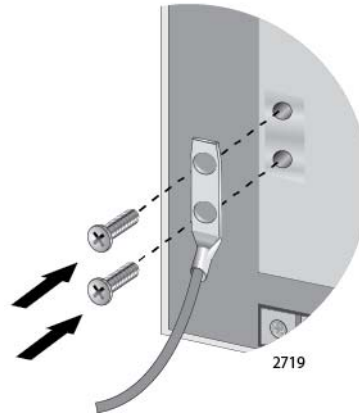

Figure 48. Installing the Grounding Lug and Wire
4. Install the grounding lug on the chassis, as shown in Figure 48. Allied Telesis recommends tightening the screws to 20 inch-lbs.